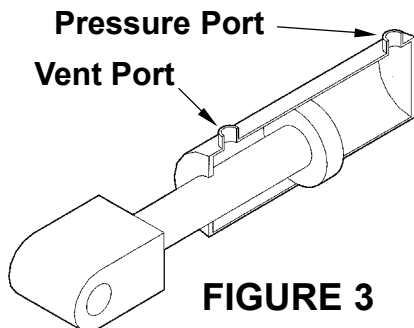

FIGURE 3
- 8.** With the Platform on the ground, remove breather plug or vent line from vent port of cylinder. Raise the Platform to bed level. If hydraulic fluid streams from the Vent Port, the Piston Seals are worn. **(See Fig. 3)** Replace the Seals.